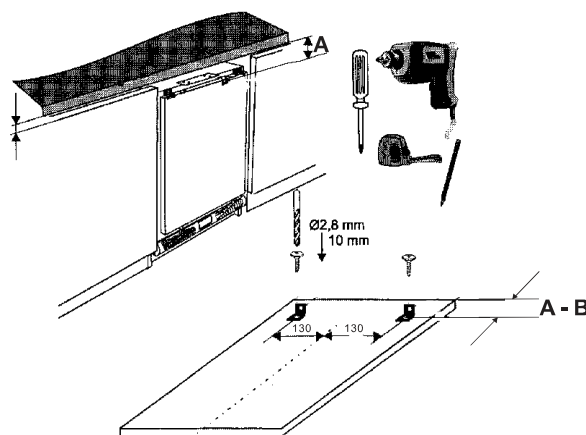

Figure 4
1) Remove the upper fixing flanges from the appliance's door (Figure 4).